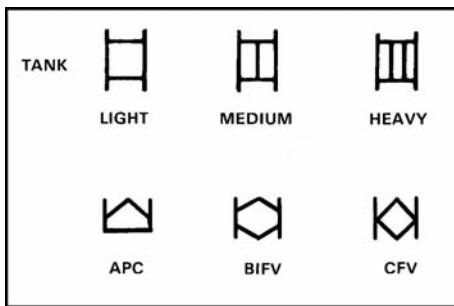

Figure 071-329-1019-10. Armored vehicle symbols
- j. Fortification and obstacle symbols (figure 071-329-1019-11).